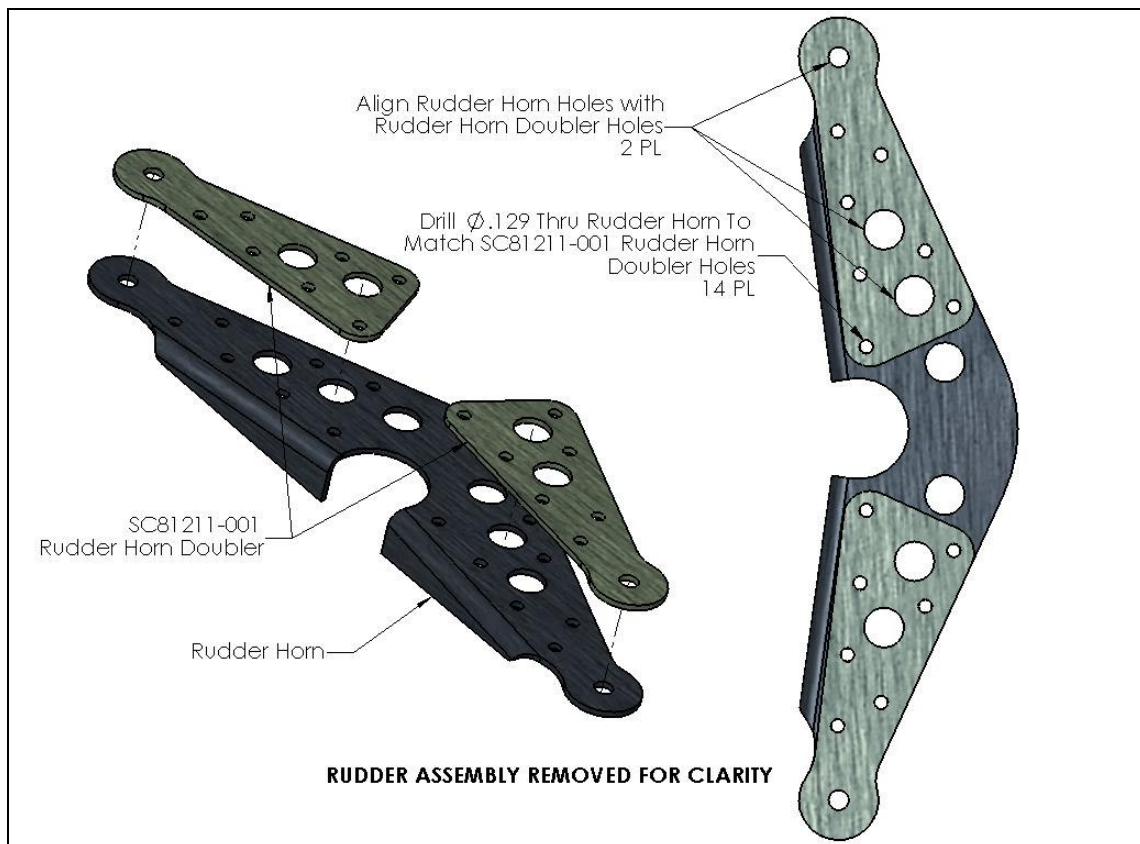

Figure 2
1. Align rudder horn holes with rudder horn doubler holes as shown in Figure 2. Secure rudder horn doubler to rudder horn by any means possible (pins, clamps, etc.).
2. Once the rudder horn doubler and rudder horn are aligned and secured, drill $\varnothing.129$ thru rudder horn to match rudder horn doubler as shown in Figure 2.